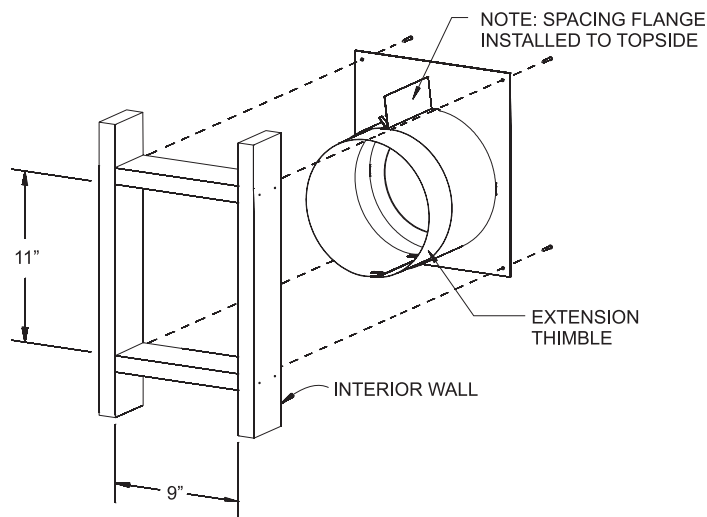

Figure 62
2. Cut hole in wall for wall thimble/firestop assembly (Figure 62) into your combustible wall. Note: On brick or block exterior wall a 7-inch diameter hole needs to be cut. Measure the total wall thickness to determine whether or not the extension thimble is to be used. If the combustible wall depth is over 5-3/8 inches, then the extension thimble should be used (Figure 62).
3. Install the wall thimble assembly through the framed opening so the firestop plate is on the interior wall (Figure 62). Telescope section should extend all the way through the exterior wall. Attach with four 10 x 1 inch screws.